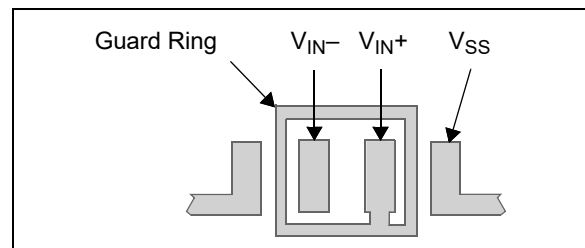

FIGURE 4-14: Example Guard Ring Layout for Inverting Gain.
The easiest way to reduce surface leakage is to use a guard ring around sensitive pins (or traces). The guard ring is biased at the same voltage as the sensitive pin. An example of this type of layout is shown in Figure 4-14.
1. Inverting Configuration (Fig and Figure 4-14)